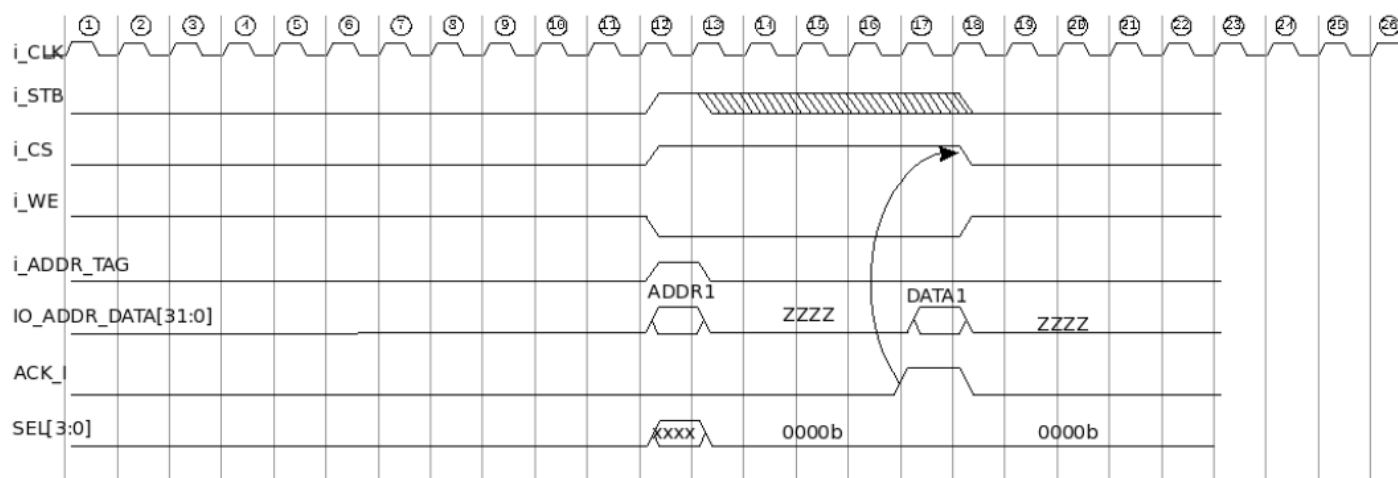

Figure 3: Single word read cycle on the processor interface
**Single Word Read Transaction :** This transaction can be used to access a single 32 bit word from the SD Host Controller. This transaction is mainly used for accessing the CPU register set for reading response bytes, status registers, read write register values. The timing diagram of the transaction is shown in Figure 3